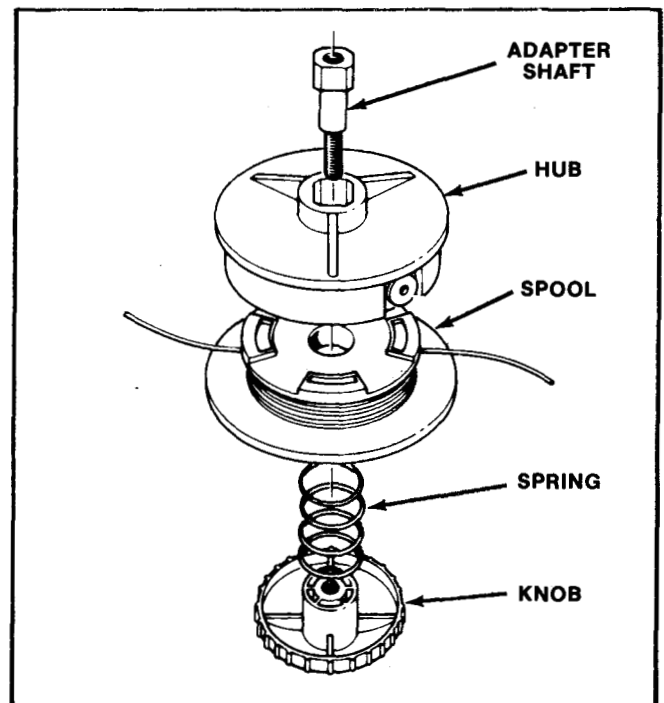

Figure 141
2. Install the cutter head shaft into the drum as shown in Figure 141.